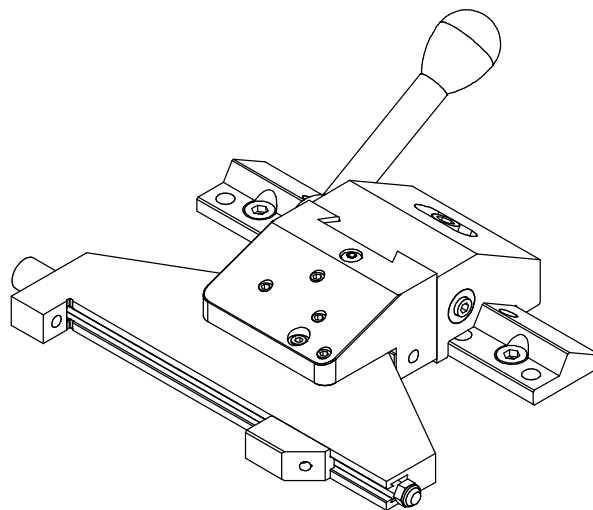

Figure 1
STEP 2. Insert the TD01/V06 assembly onto the MCD01 or PS01 (lower stage) on the rail as shown in Fig. 1.